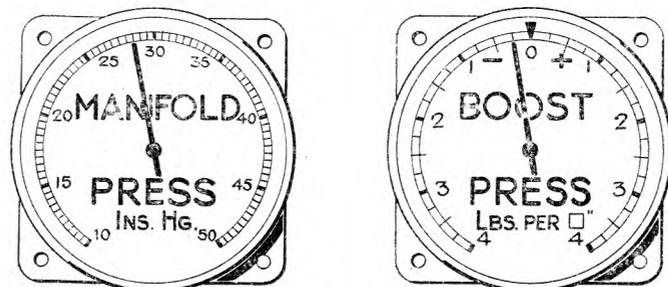

Fig. 1.
To set the instrument, the aircraft must first be put on the aerial compass course, then the caging knob at A, Fig. 1, is pressed and turned until the lubber line (LL) indicates the required heading in degrees at the card (C). The pilot then steers by keeping the lubber line at the appropriate number of degrees on the card (C), checking up with the compass from time to time.
Thus the rotor (R) provides a directional reference (A) independent of the aircraft heading and with such a high degree of accuracy that any change of direction will immediately show itself in a difference in direction between the rotor and its ring (E) and the aeroplane and its ring (F). This difference is read off at the lubber line on the scale (C) at the dial of the instrument (Fig. 1).
To turn the rotor (R), the air is sucked out of the case at N (Fig. 1) through a pipe leading to a suction pump or the outside venturi tube. As air is sucked out of the instrument case at one end (N) it rushes into it at the other (at N1). In doing so it is directed on to the vanes of the rotor through the nozzle (N, Fig. 2), so turning the rotor like a water wheel